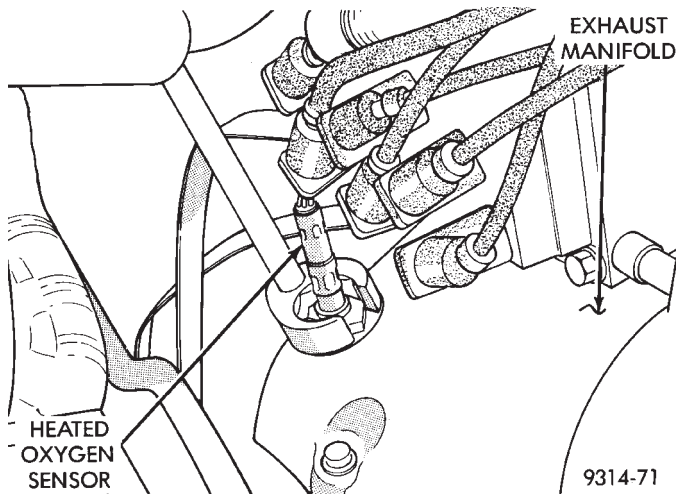

Fig. 45 Heated Oxygen Sensor Removal/Installation—3.5L Engine
- (1) To access the heated oxygen sensor on the right exhaust manifold, remove the air cleaner tube.
- (2) Disconnect the heated oxygen sensor electrical sensor.
- (3) Use a crow-foot wrench or tool C-4907 to remove oxygen sensor (Fig. 45).